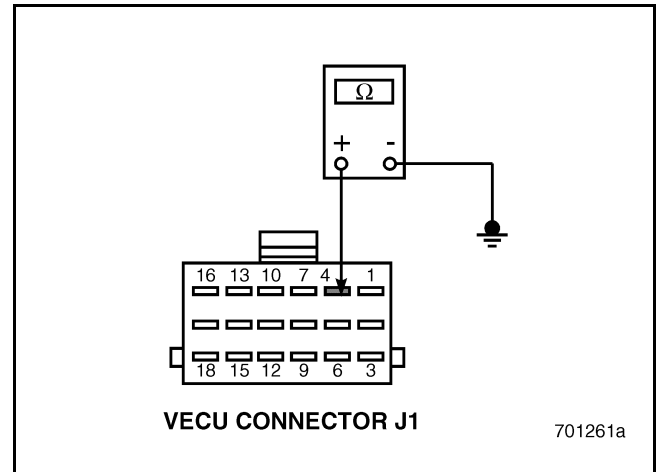

Figure 506
4. Check for continuity between VECU connector J1 pin 4 and a good ground (see Figure 506).